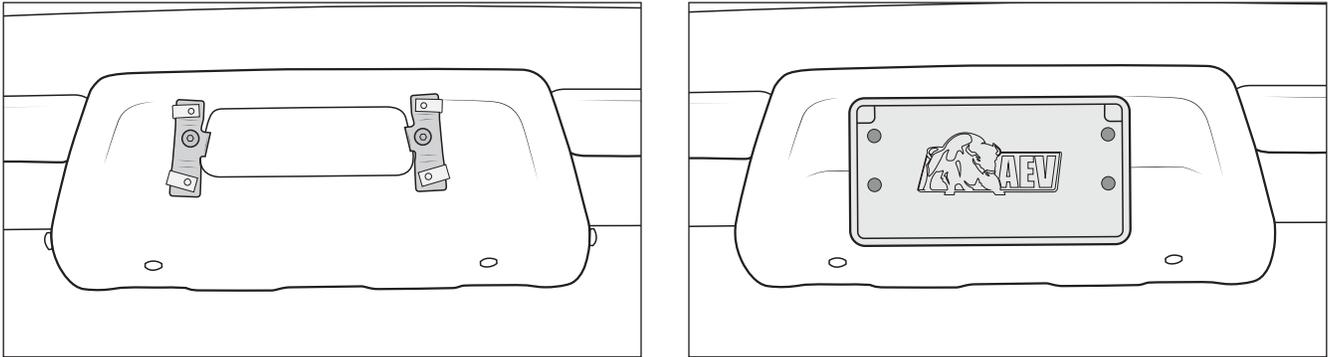

Figure 20
14. For Non-Winch applications, Install license plate carrier. Attach brackets under 2 M10 bolts from previous step. Use 4 M4 torx screws to attach license plate carrier to brackets (fig. 20).